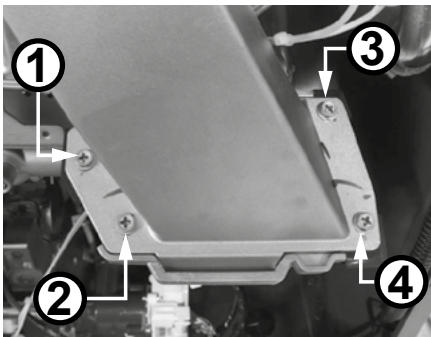

Figure 5 - Remove fan assembly screws
10 Locate the four (4) screws securing the fan assembly to the burner door assembly as shown in Figure 5. Use a Phillips screwdriver to remove the screws. Place the screws aside in a safe place for reinstallation.